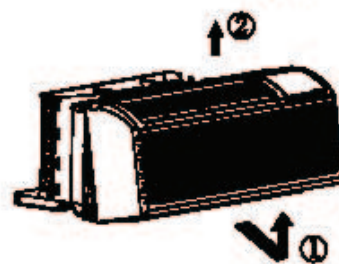

Fig.4
- Remove the front panel. (See Fig.4)